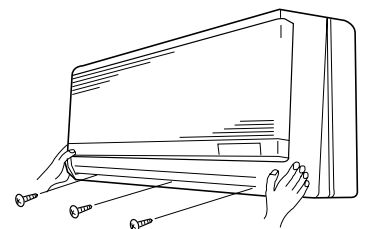

Fig. 3-55
- (1) Set the flap in the horizontal position.
- (2) Unscrew the screws. (Fig. 3-55)
- (3) Remove the grille.